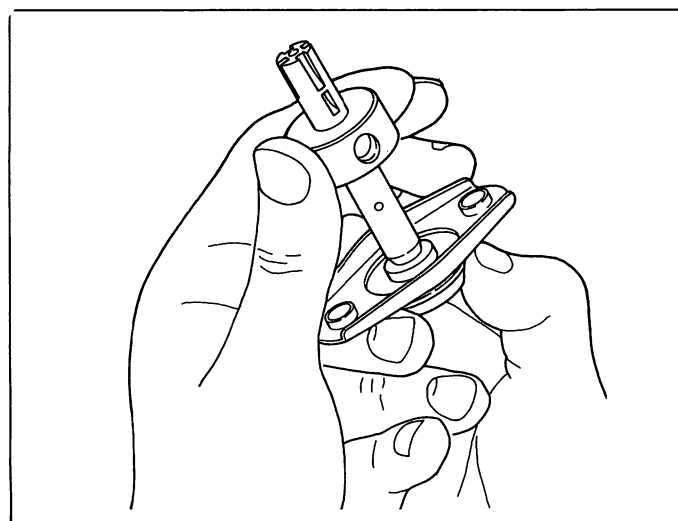

Fig. 68 Installing the control sleeve
4. Fit the shim (43), the washer (44) (with oil groove) and the spring seat (45) on the plunger in the above sequence, and then install the control sleeve on the plunger. (Fig. 68)